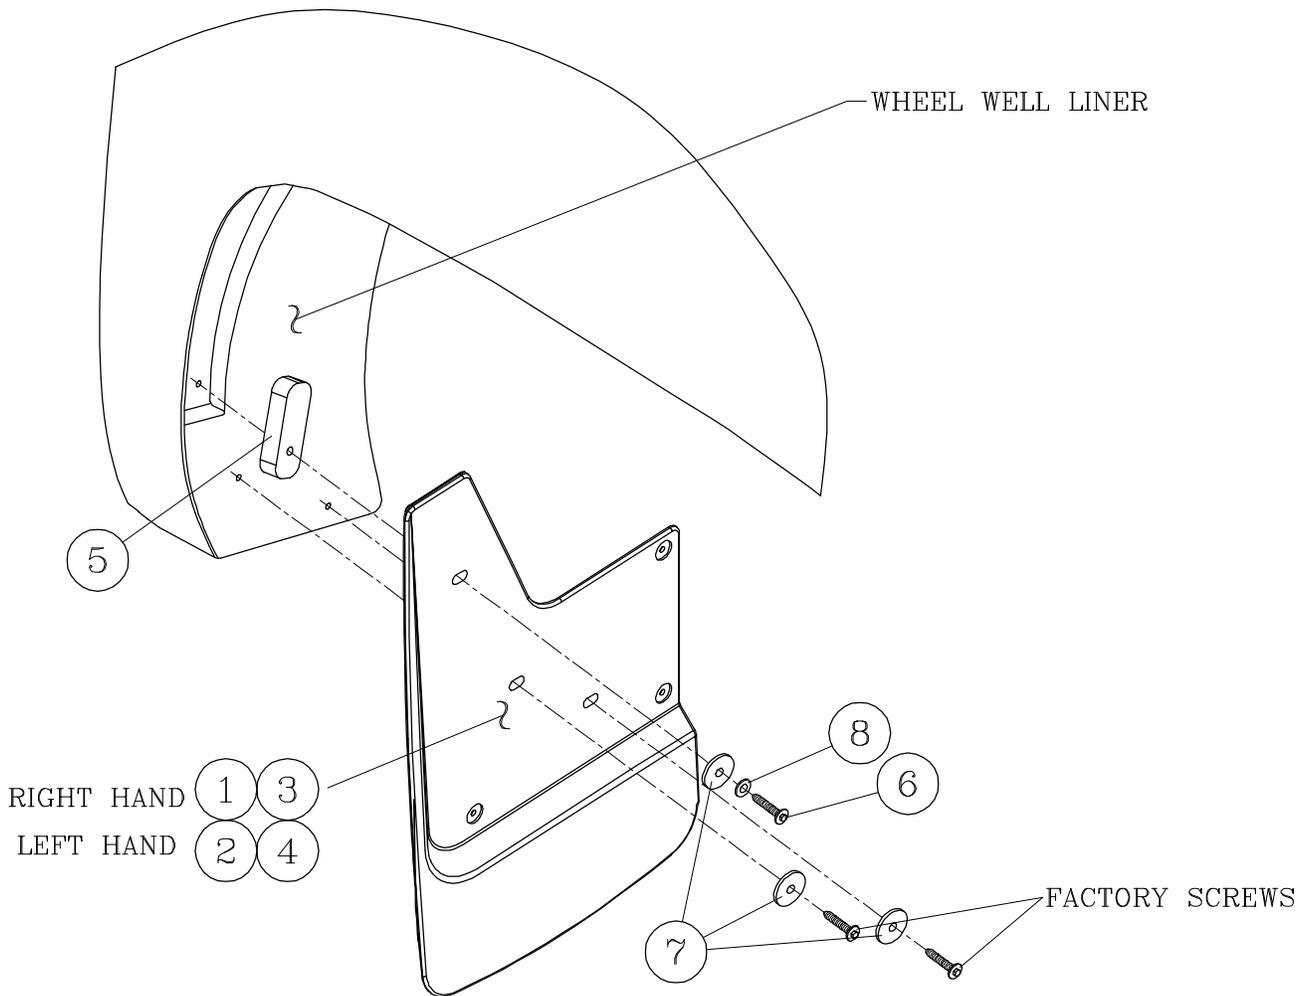

fig.1
- 2.3 POSITION THE SPLASH GUARD AGAINST THE WHEEL WELL FLANGE AND INSTALL ONE PAN HEAD SCREW WITH FENDER WASHER (ITEMS #6, 7) THRU THE TOP HOLE, AND THE TWO FACTORY BOLTS WITH ADDITIONAL FENDER WASHERS (ITEM #7) THRU THE TWO LOWER HOLES AS SHOWN IN FIG. 1. AND TIGHTEN DOWN.